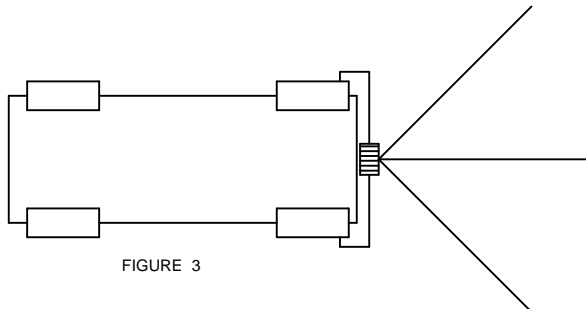

FIGURE 3
- 45 degree angle left or right from straight ahead (See Figure 3).